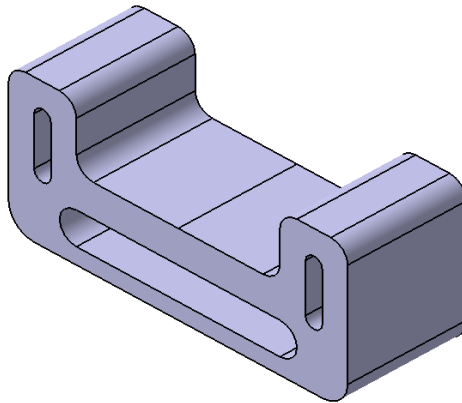
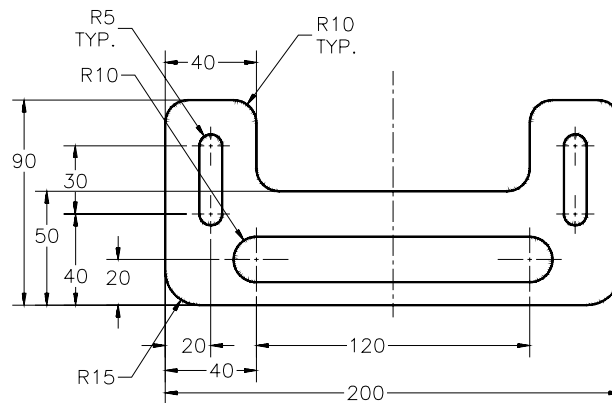

Figure 3-58 The model for Tutorial 3
Figure 3-59 The sketch for Tutorial 3
In this tutorial, you will draw the sketch of the model shown in Figure 3-58. The sketch is shown in Figure 3-59. You will not dimension the sketch. The solid model and its dimensions are given for your reference. **(Expected time: 30 min)**
11. Similarly, fillet the other corners of the sketch with a radius of value 10, refer to Figure 3-59.